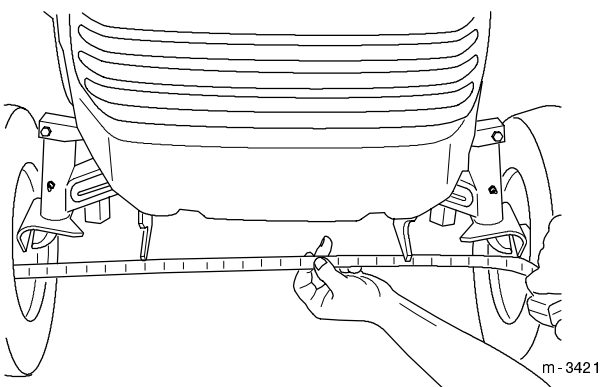

Figure 40
Maintaining correct front wheel toe-in is important for safety, "Smart Turn" steering operation, and ease of use. If uneven tire wear, lawn scuffing or hard steering develop, adjustment may be required. Check the toe-in after every 100 operating hours or once a year, whichever occurs first (Fig. 40).
4. Measure the distance between both of the front tires at spindle level (at the front and rear of the wheels) (Fig. 40).